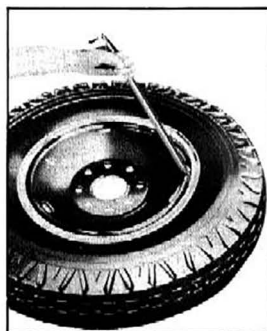

Fig. 66—¾ Ton Tire Removal
4. Insert curved end of tire iron in the square notch in the retaining ring and pry out and up while holding the ring down into the gutter at the opposite side (fig. 66). Continue this operation until the cutaway portion of the retaining ring nearest the tire iron spans the outside diameter of the rim gutter.